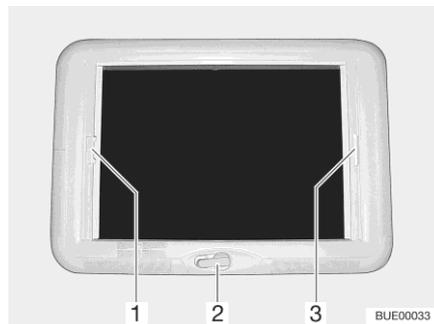

Fig. 127 Wind-up skylight
- Rotate the hand crank (Fig. 127,2) until a resistance can be felt.
Closing: ■ Pull the handle of the Roman shade (Fig. 127,3) and release in the desired position. The Roman shade will stay in that position.
Closing: ■ Pull insect screen at the handle (Fig. 127,1) to the opposite handle of the Roman shade (Fig. 127,3) and allow to engage.
Opening: ■ Press the handle of the insect screen (Fig. 127,1) at the back upwards and detach the insect screen from the Roman shade (Fig. 127,3).